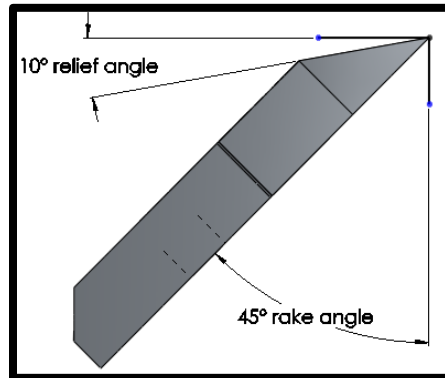

Figure 12: Rake and Relief Angles
11.3.3 If there are any extensions attached to the core barrel, try using the extension recovery tool (Figure 12). Attach it to the end of an extension string long enough to reach the down hole components. Lower it down and use the funnel to center the stem. Rotate the extensions until the locking pins attach to the down hole portion and then pull up the entire assembly.